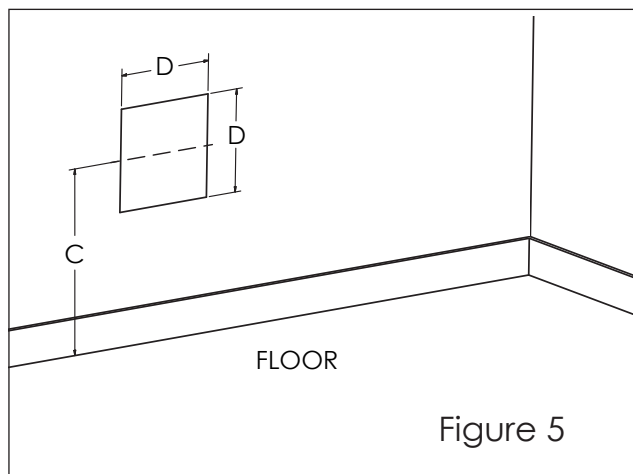

Figure 5
1. Draw the position of the hole for the air-vent intake pipe, taking into account the minimum clearances mentioned in figure 4. See dimensions of the square hole "D" and height to the center "C" in table 1 and figure 5 for the different models. Height "C" is the minimum recommended.
2. Cut the square hole through the wall according to the measurements and positions indicated in figure 5.